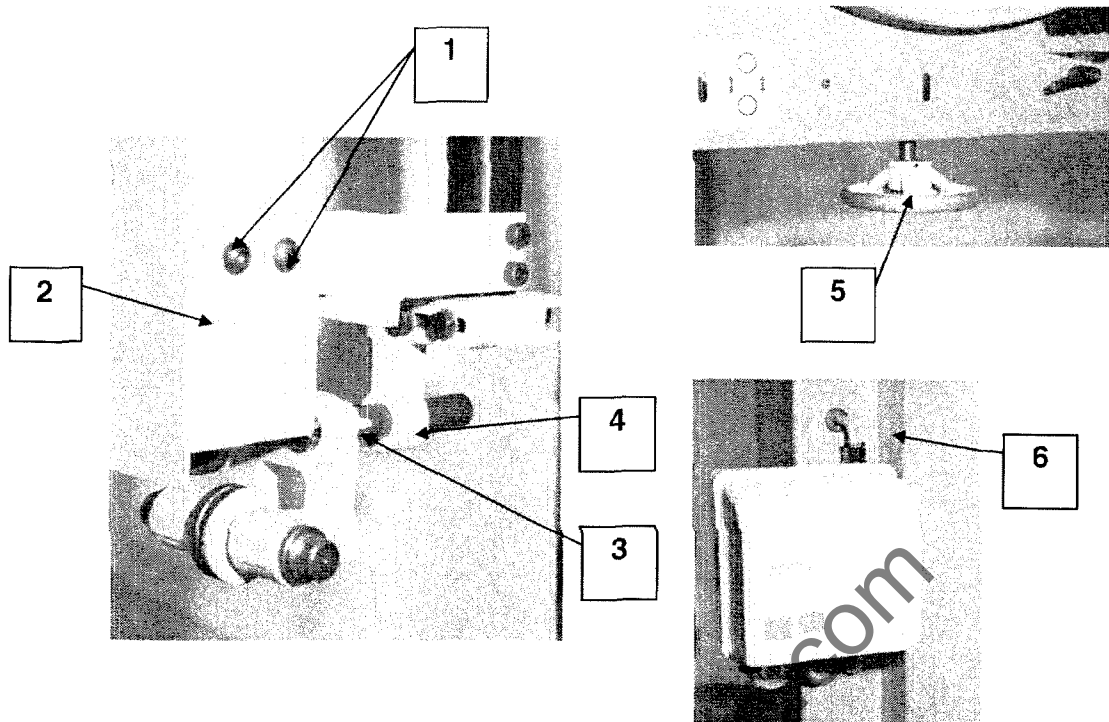

Figure 5.2
### 5.2 Fitting a Saw Blade (Figure 5.2)
- 6) Slacken thumbscrew (5) and move the rear roller just clear of the back of the saw blade; tighten thumbscrew (5).
- 7) Refit the top saw guard ((2) Figure 5.2).